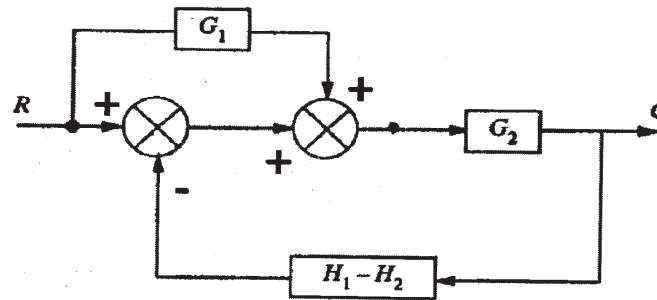

Figure 1
b) From the block diagram in Figure1, determine the transfer function: C/R. [4]